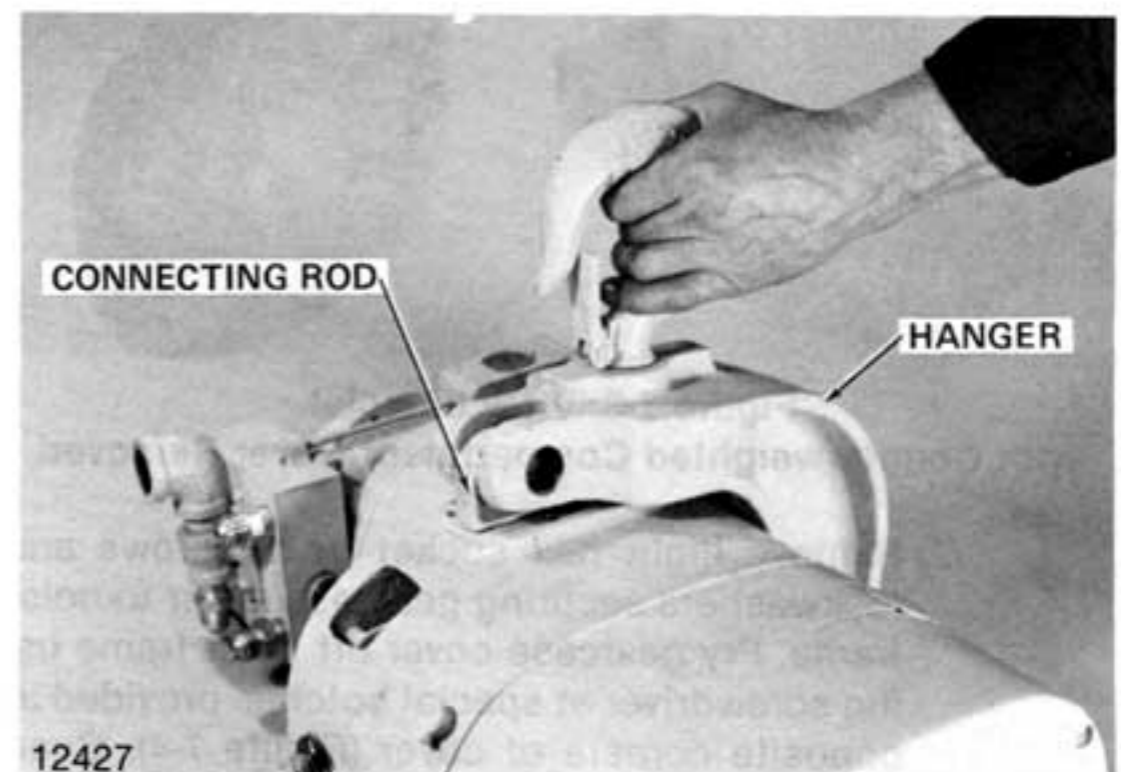
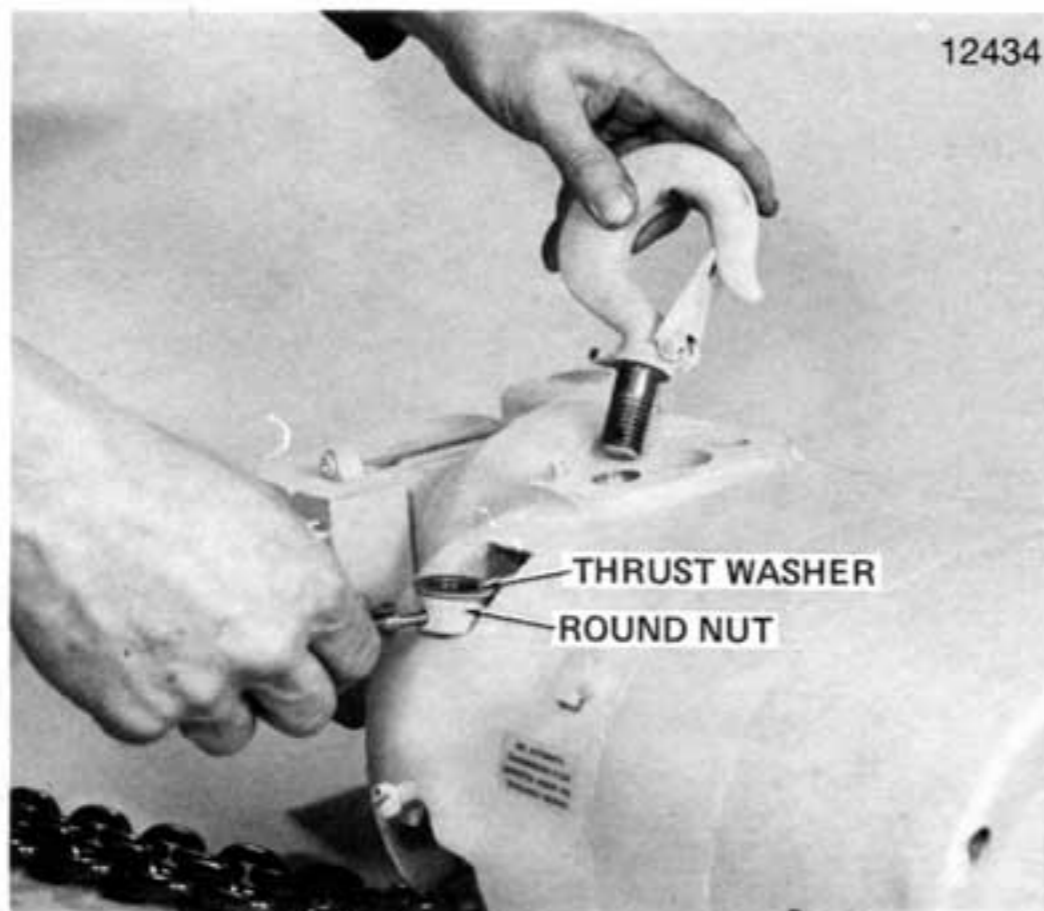

Figure 7-1. 3 Ton Hanger Bracket Connection Pin Removed.
Figure 7-15. Removing Upper Hook and Hook Nut From Hoist Frame (Single Reeved Models).
- (4) To remove hanger bracket from triple reeved hoist, remove retaining ring and connecting rod pin (see Figure 7-1). Rotate hoist approximately 45°. (see Figure 7-2) and hanger will slip free from hoist frame.
- (1) On single reeved models, drive pin from hook nut using drift punch and unscrew upper hook. Nut is reached through access hole in side of hoist frame. See Figure 7-15.
- (3) On triple reeved models, remove retaining ring from connecting rod pin and push connecting rod pin through bracket and connecting rod, releasing hanger (see Figure 7-1). Raise hanger above hoist frame to provide access to hook nut. Rotate hook until grooved pin in nut is visible from end of hanger frame. Using a drift punch, drive grooved pin through hook nut un-
- (4) To remove connecting rod (Figure 7-1) on triple reeved hoist drive pin from rod using drift punch and unscrew connecting rod. Nut is reached through access hole in side of hoist frame. (See Figure 7-15.)